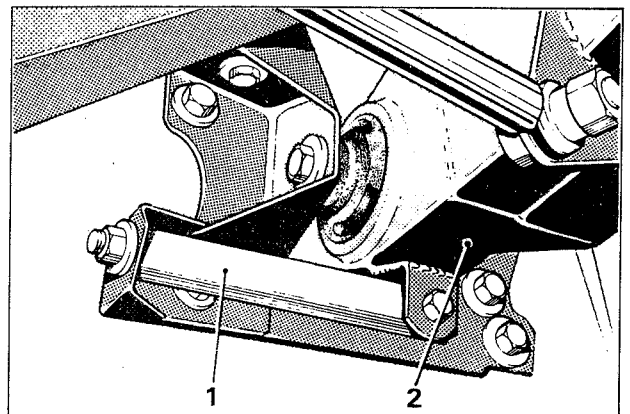

Fig. J3m Jury bolt in position
4. Remove one of the small dampers fitted at each end of the rear suspension crossmember. Insert a jury bolt (RH 9575) and tighten the lock nuts (see Fig. J3m). Ensure load is not applied to the crossmember by the jury bolt. Repeat the operation at the opposite end of the crossmember.